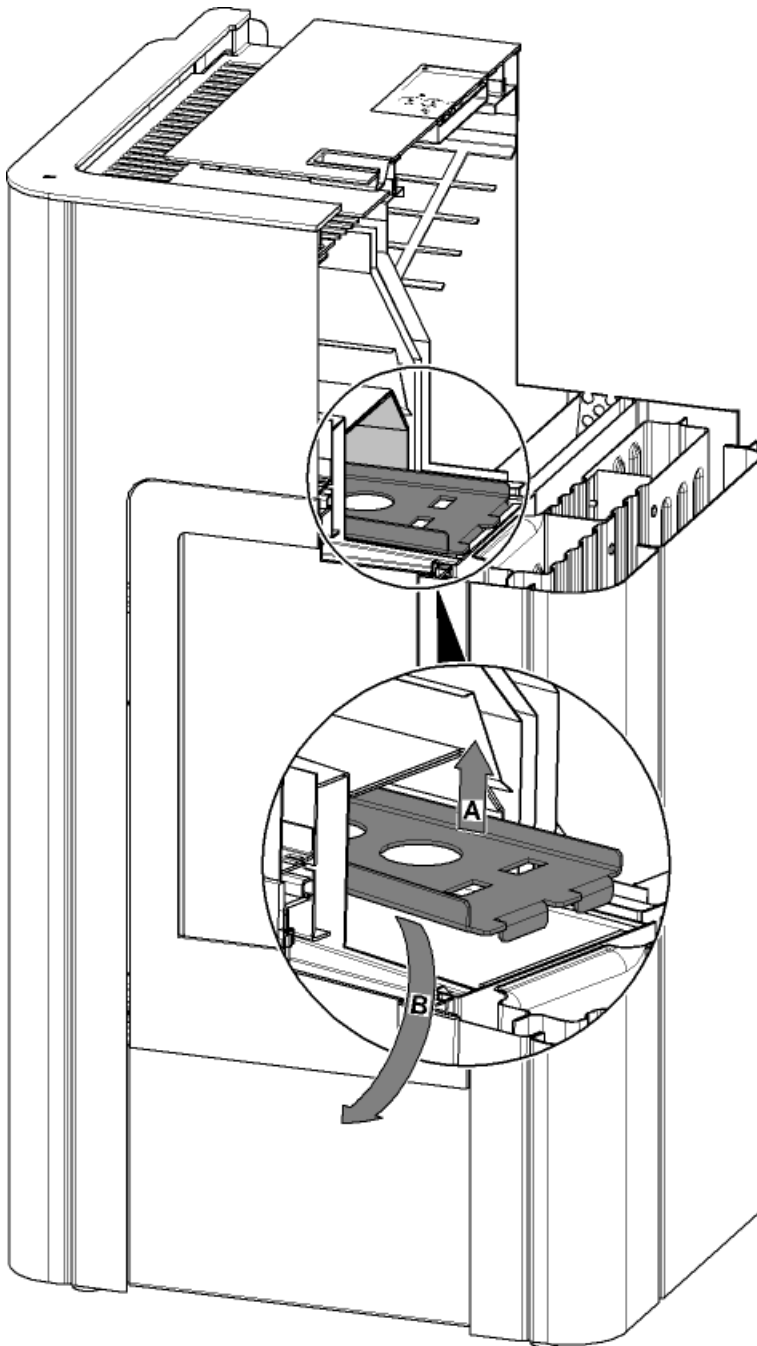

Figure 2: Removing the flue baffle
- Carry out the cleaning as pr the Fig. 2.